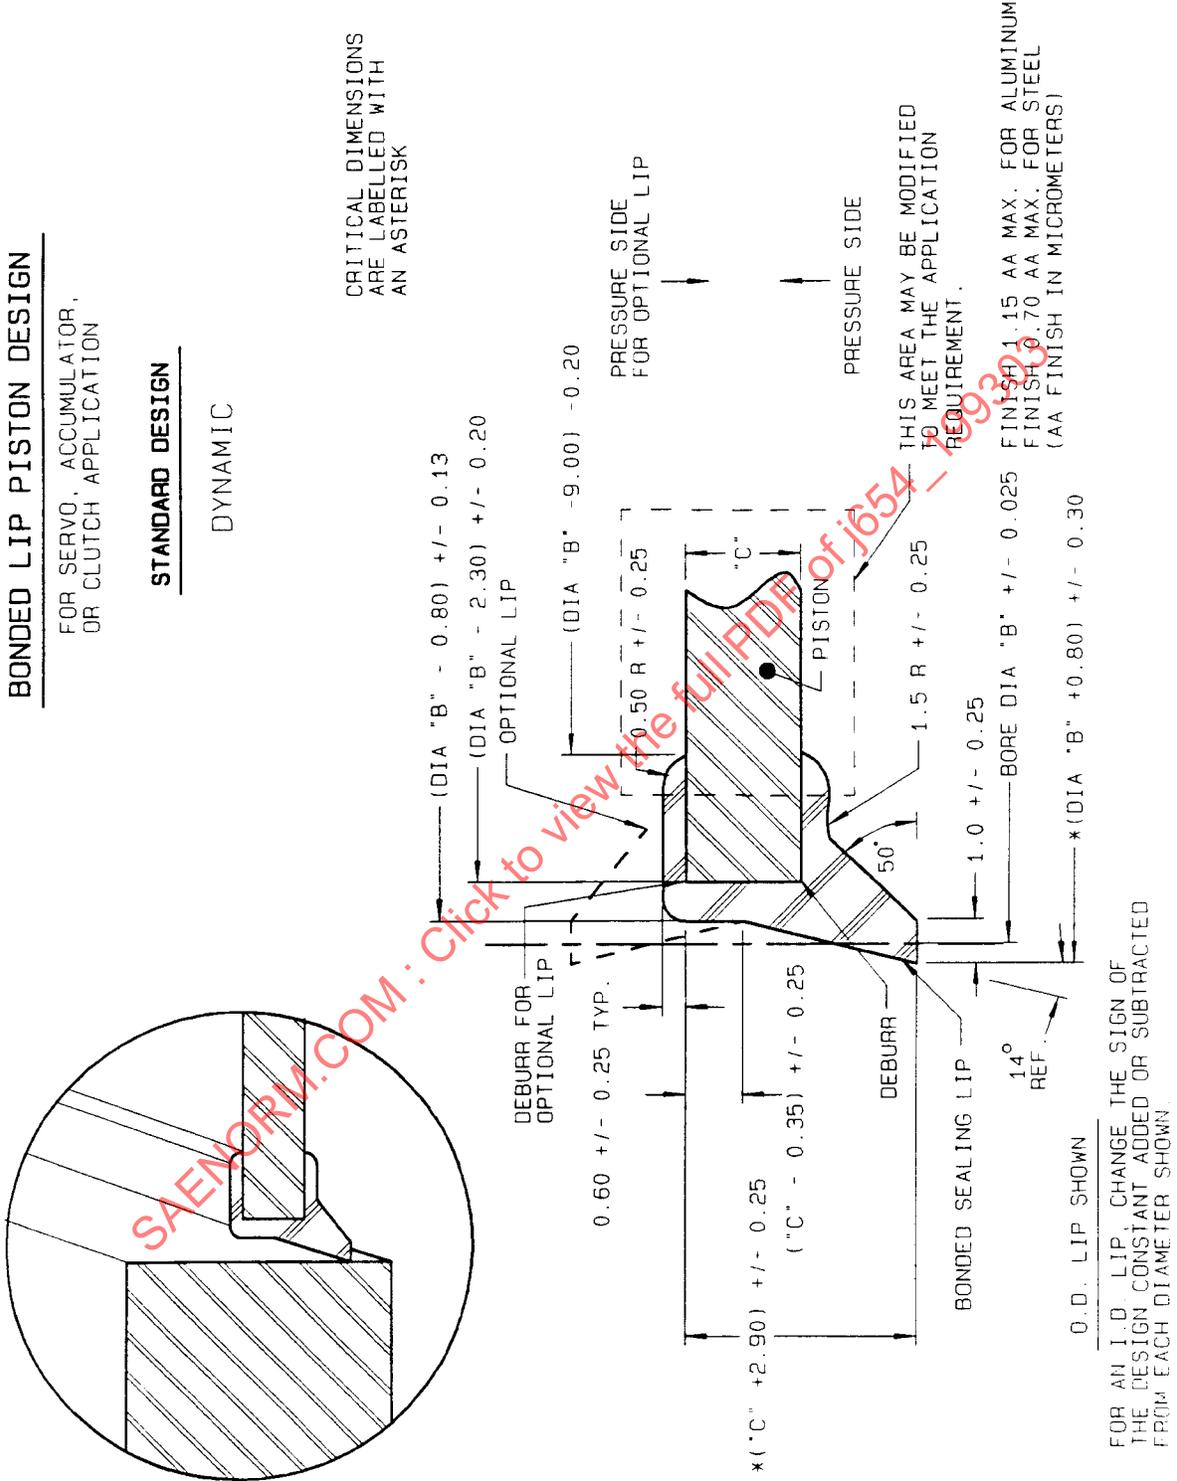

FIGURE 7—STANDARD DESIGN
- 4.2 **Seals—Bonded Lip**—Bonded lip seals (shown in Figures 7 and 8) are elastomeric lip seals bonded to metal. These seals function by the lip interference between the elements being sealed and by pressure acting on the lip. The sealing effort is, therefore, the combination of the designed-in lip interference and the effort proportional to the pressure being sealed. Bonded lip seals are molded to size and bonded to one of the sealed elements in one operation.